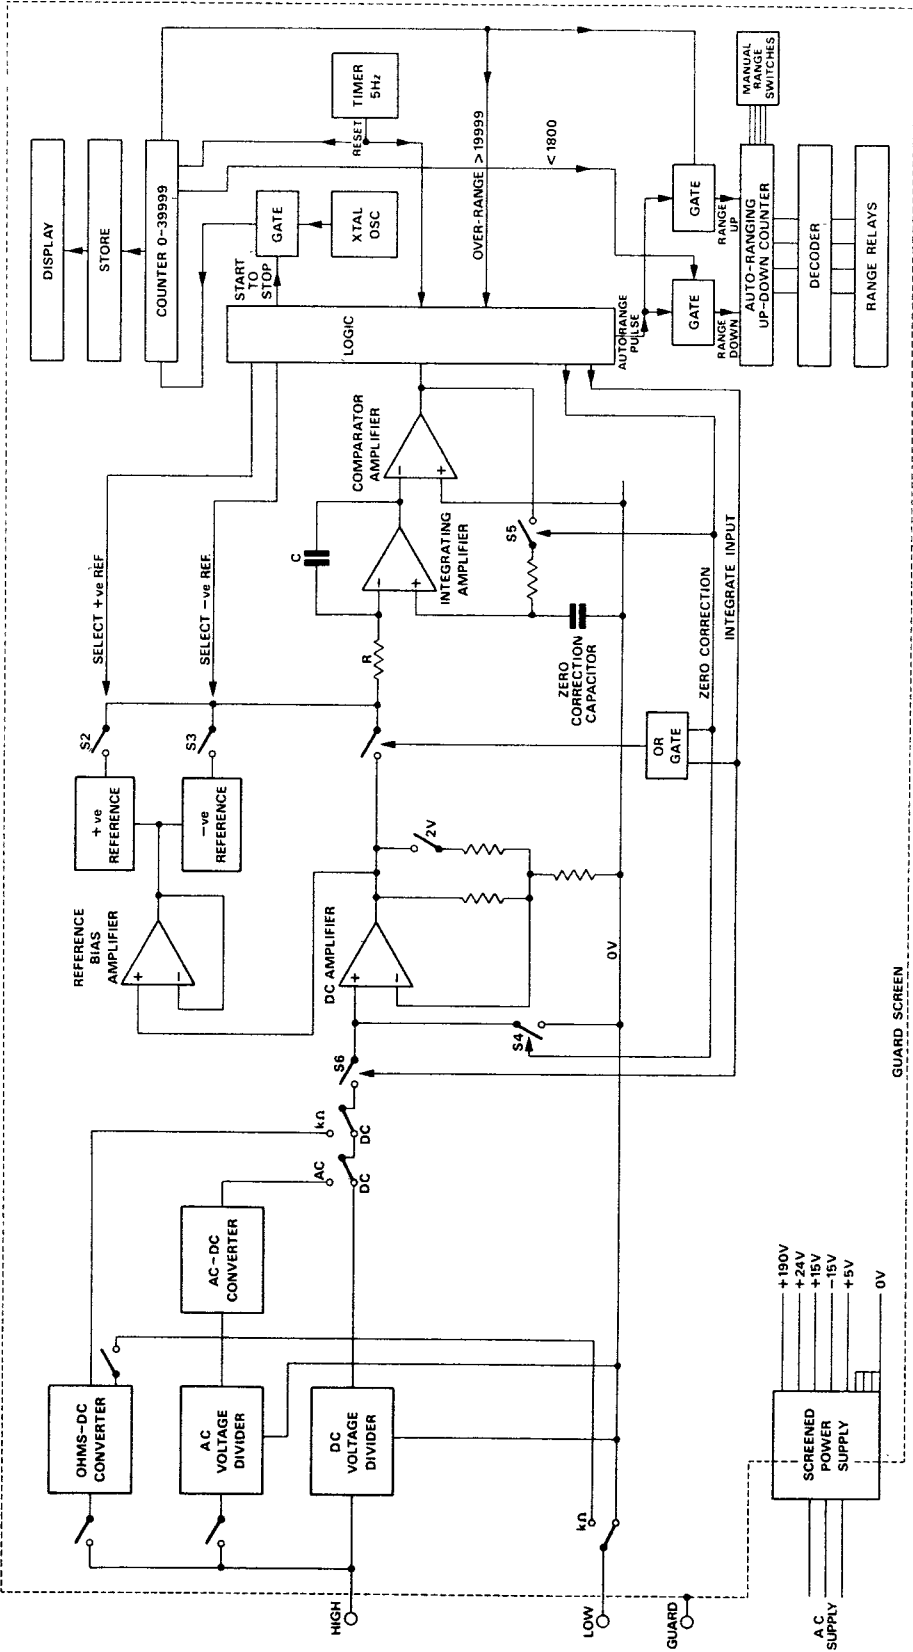
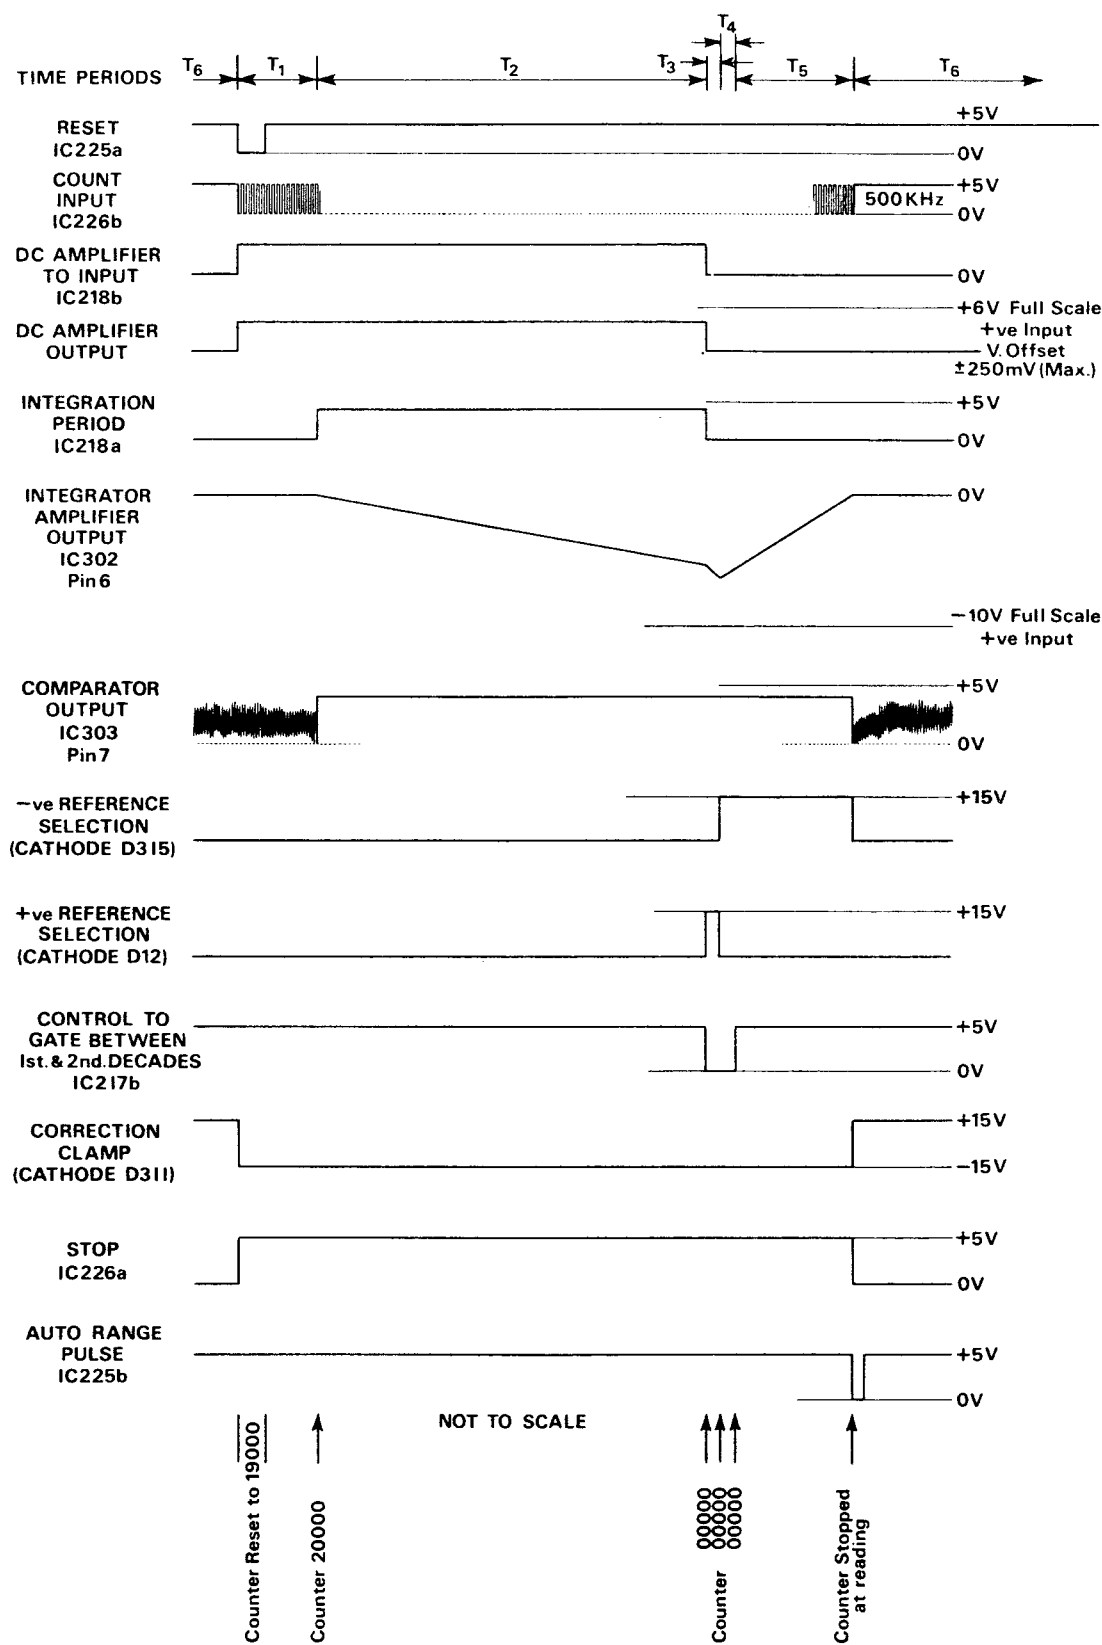

Fig. 5 Block Diagram
Fig. 6 Timing Diagram
In DVM5 the dual slope integration method is applied in the following manner. A d.c. voltage from the input signal conditioning circuits is applied to the integrator via switch, S1, (Fig. 5) for a period of 40ms (T_2). The fixed period of 40ms is defined by counting down the 500kHz crystal oscillator. After 40ms (T_2), the output of the integrator amplifier will attain a voltage proportional to the input voltage (Fig. 6). At this point, the polarity of the input is determined by the comparator amplifier and S1 is switched off. An internal reference voltage of the same polarity as the input voltage, is now applied to the integrator via switch, S2 (+ve ref.) or S3 (–ve ref.), for 20 μ S (T_3). The integrator amplifier ramps further away from zero at a constant rate for this period. Immediately, the opposite reference voltage is applied and the integrator output ramps at a constant rate towards its original voltage. After a further delay of 20 μ S (T_4), the counter is used to measure
the time (T_5) to regain the original voltage. The count is displayed to indicate the voltage being measured. Between measurements (period T_6), S1, S4 and S5 are closed, putting the d.c. amplifier, integrator amplifier and comparator into a zero correction loop with the error voltage being stored on the zero correction capacitor (Fig. 5).
4.6 COUNTER AND TIMING BISTABLES (Figs. 6, 9)
4.7 REFERENCE SELECTION AND STOP (Figs. 6, 8)
The input amplifier integrated circuit, IC301, preceded by a f.e.t. pair, TR303 and TR304, is connected in a non-inverting configuration to provide extremely high input impedance. The output swings of the amplifier is ± 6 volts for the 0.2 and 2 volt ranges, with the gain being accurately determined by the feedback divider, R318, R319 and R321. TR350 is a constant current supply for TR303 and TR304, and R311 and R312 are adjusted to balance the gate source voltages. R410 and R408 bootstrap the drain supply on the 2 volt range but TR333 is used to switch the drain supply to the +15V line for the 0.2 volt range. R320 adjusts the gain on the 2 volt range only. TR301 and TR302 are series shunt switches, where TR301 connects the amplifier to the input voltage for the periods, T1 and T2 (Fig. 6). TR302 connects the amplifier input to zero volts via R333 for the periods T3, T4, T5 and zero correction period T6. A zero voltage offset is applied to the source of TR302 by feeding a current into R333 from R322 and R180, the zero adjust potentiometer. The bias resistors, R315 and R316, for TR301 are bootstrapped to the amplifier feedback point while TR301 is turned on. TR306 shorts the junction of R315 and R316 to 0V while TR301 is biased off (periods T3, T4, T5 and T6).